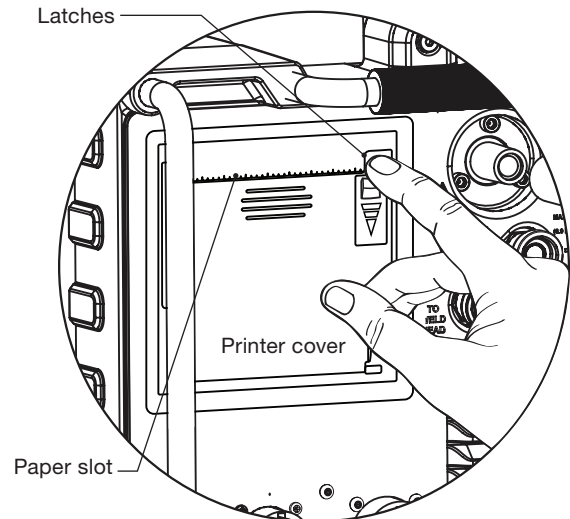

Fig. 50—Opening the Printer Cover
1. Push down on latch to open printer door (Fig. 50).